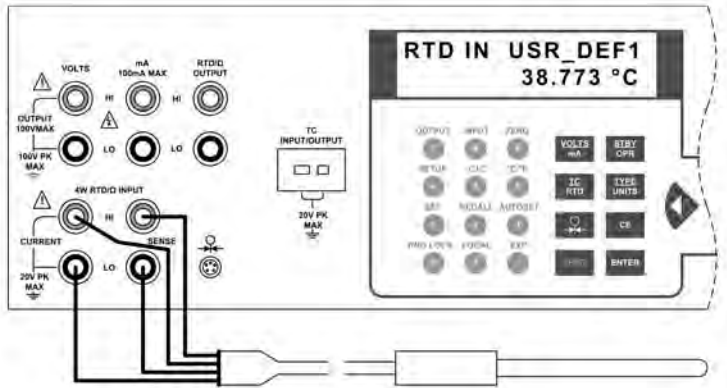

Figure 30 - Precision Temperature Measurement with 4-Wire RTD Probe
4. Connect the probe as shown in figure 30.